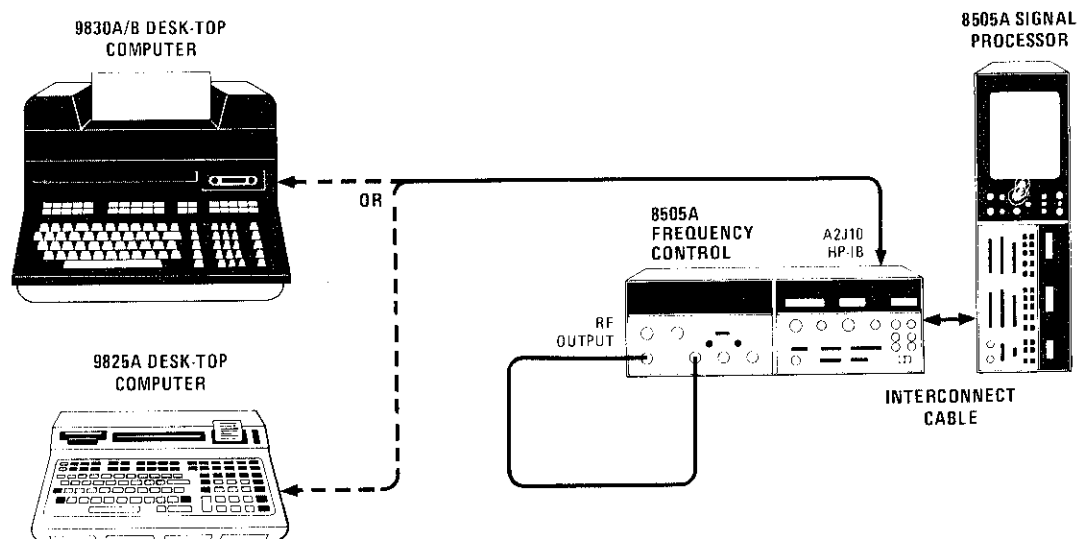

Figure A5-47. Remote Output Level dBm Vernier and Remote Marker Test Setup
- b. Connect equipment as shown in Figure A5-47 with the RF output connected directly to Channel R Input.